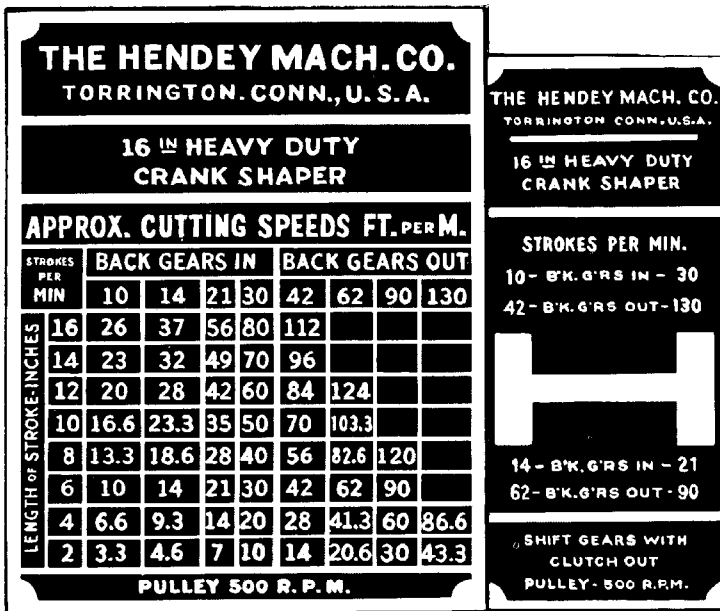
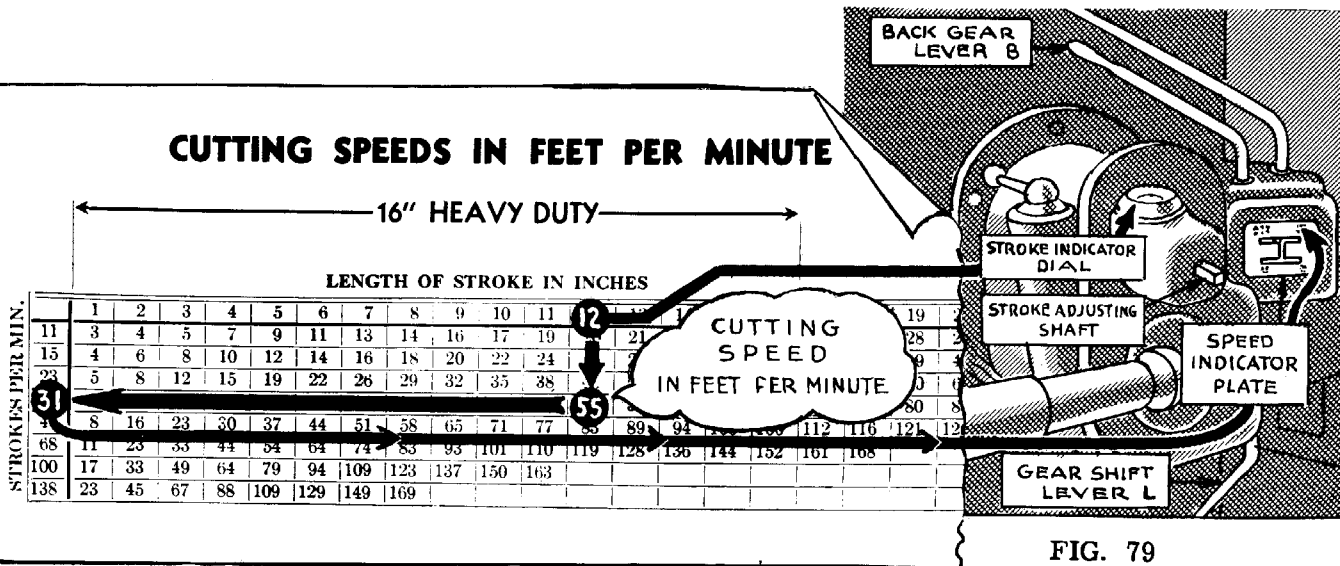

FIG. 76
FIG. 79
1. Examine the speed plate shown in Fig. 76. Note that the factors needed to determine the speed of the shaper have been included on it.
5. Locate in the first column (Fig. 76) on the left side of the speed plate the number which corresponds with the length of the ram stroke as indicated on the stroke-index dial.
**NOTE:** The cutting speeds which result from various combinations of stroke lengths and ram speeds — two factors which determine the cutting speed of the shaper tool — are frequently supplied on a speed chart attached to the shaper, as shown in Fig. 76. In other cases, the manufacturer supplies a table of cutting speeds in an operator's manual. The table shown in Fig. 79 has been reproduced to use in adjusting the speed of the shaper.
3. Locate in the upper row of the table the number which corresponds with the length of the ram stroke. (Refer to Fig. 79).
If the speed of this shaper is to be adjusted for the same job used in the previous example, proceed as follows and refer to Fig. 79.
2. Find number (12) (which is the length of stroke required) in the upper row in the table of cutting speeds. (Refer to Fig. 79).
3. Move down in the column under number (12) and stop at number (55), since this is the number which comes nearest to the recommended cutting speed of 60 feet per minute for roughing cast iron.
4. Move to the extreme left in the row opposite number (55). Number (31), appearing at the intersection of this row and the left-hand column, indicates the number of ram strokes for which the shaper is to be adjusted to get the approximately correct cutting speed.
5. Shift the speed indicator by means of lever (L) to the slot in the stroke plate under number (31).
6. Shift back-gear lever (B) to its position marked "B".